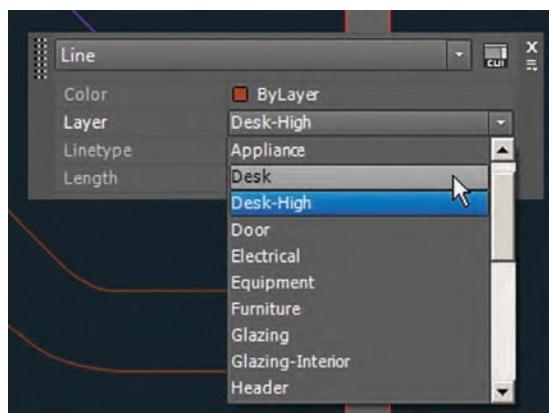

FIGURE 6.3 Assigning a different layer to the selected object
4. Open the layer drop-down and observe that the layer in blue is what is currently assigned. Select Desk (see Figure 6.3) in the drop-down, and press the Esc key to exit Quick Properties mode. Press Ctrl+Shift+P to toggle off Quick Properties mode. Observe that the line whose layer property you changed now appears violet, like the other objects on the Desk layer.